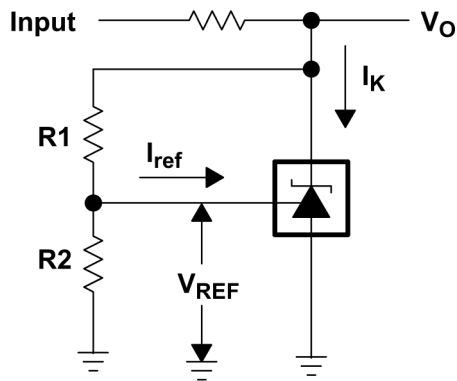

Figure 6-2. Test Circuit for  $v_{KA} > V_{REF}$ ,  $V_O = V_{KA} = V_{REF} \times (1 + R1/R2) + I_{ref} \times R1$
(3) The dynamic impedance is defined as  $|z_{ka}| = \frac{\Delta V_{KA}}{\Delta I_K}$ . When the device is operating with two external resistors (see Figure 6-2), the
- (3) Full temperature ranges are  $-40^\circ\text{C}$  to  $125^\circ\text{C}$  for TLV431Q,  $-40^\circ\text{C}$  to  $85^\circ\text{C}$  for TLV431I, and  $0^\circ\text{C}$  to  $70^\circ\text{C}$  for TLV431C.
- (4) dynamic impedance is defined as  $|z_{ka}| = \frac{\Delta V_{KA}}{\Delta I_K}$ . When the device is operating with two external resistors (see Figure 6-2), the total